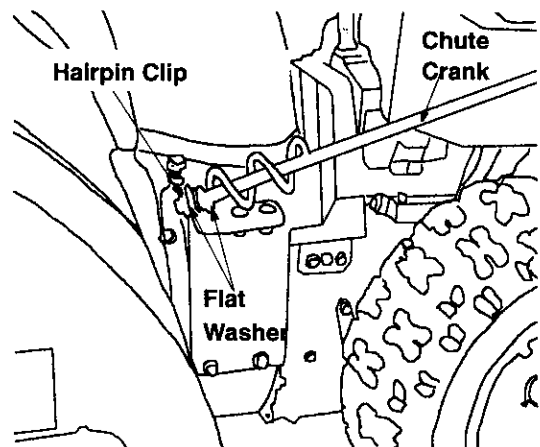

Figure 25
- Disconnect chute crank assembly at the discharge chute by removing the hairpin clip and the two flat washers. See Figure 25.